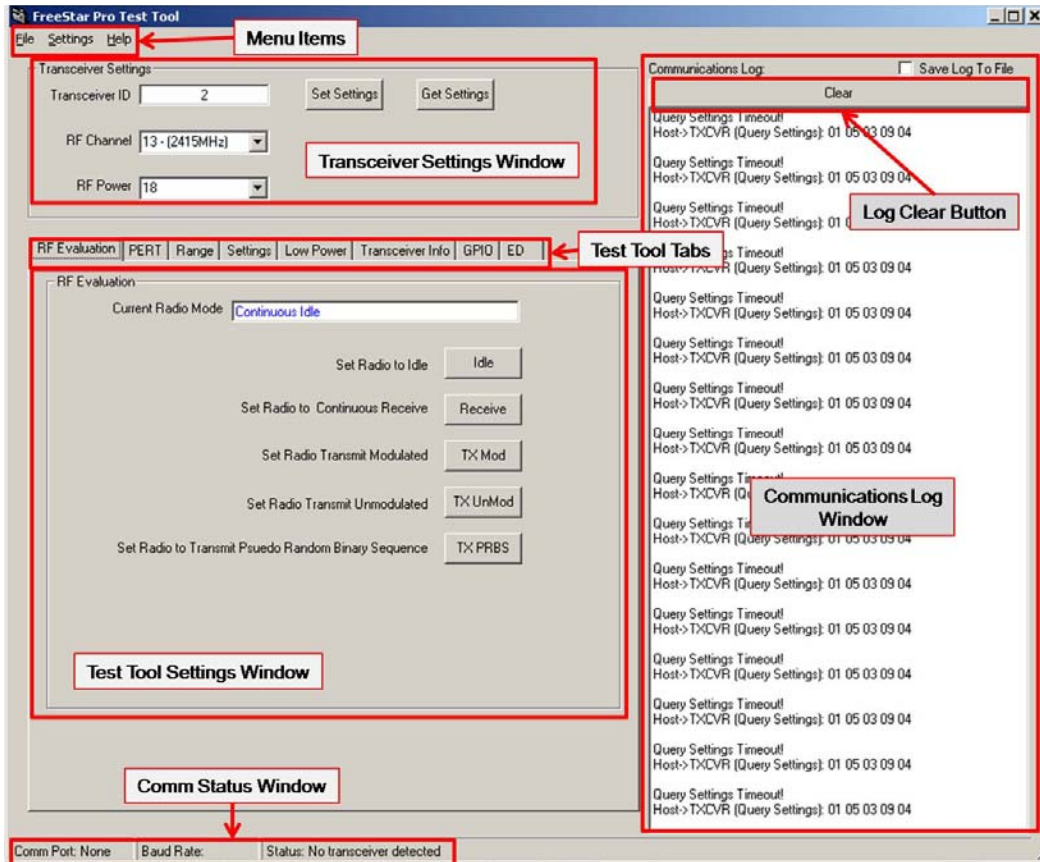

Figure 3 – Screen, FreeStar Pro Test Tool (Opening)
- 2) When the installation is complete, a shortcut to the program will be created on the desktop. Double click the shortcut to open the **FreeStar Pro Test Tool** program. The screen in Figure 3 will appear:
Please refer to Figure 3 to become familiar with the screen location of each of the following areas, commands, and functions: